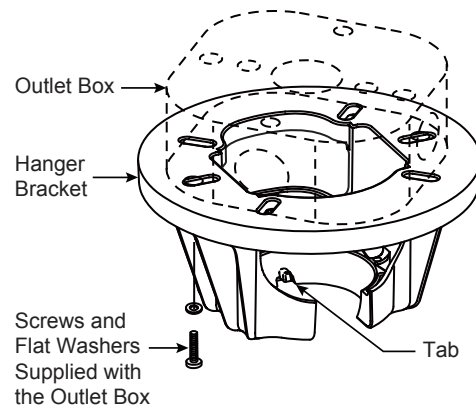
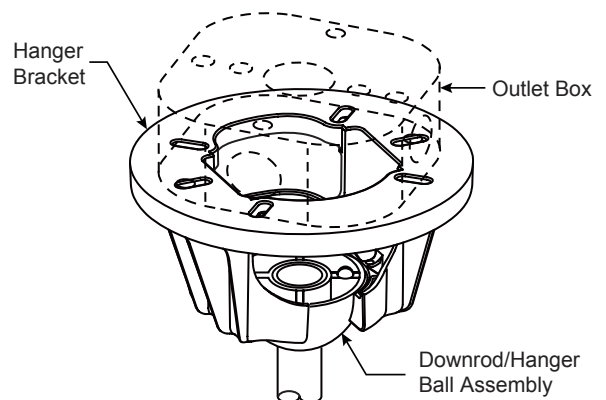

Figure 3
Figure 4
3. Carefully lift the fan and seat the downrod/hanger ball assembly onto the hanger bracket that was just attached to the outlet box. (Figure 4) Be sure the groove in the ball is lined up with tab on the hanger bracket. (Figure 3)